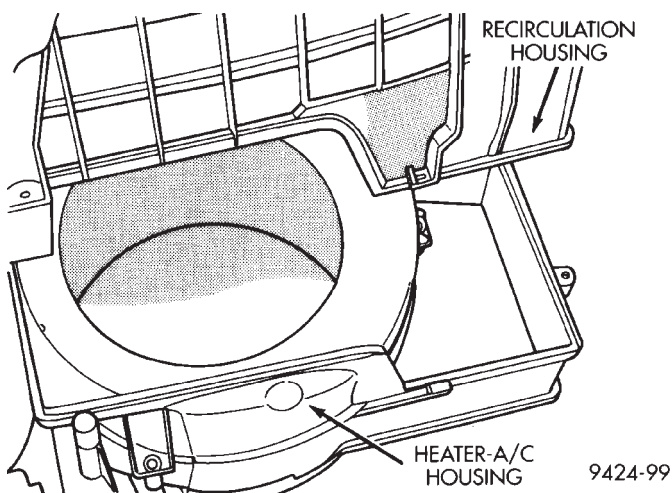

**Fig. 40 Recirculation Housing**
- (4) Remove recirculation door and housing (Fig. 40).